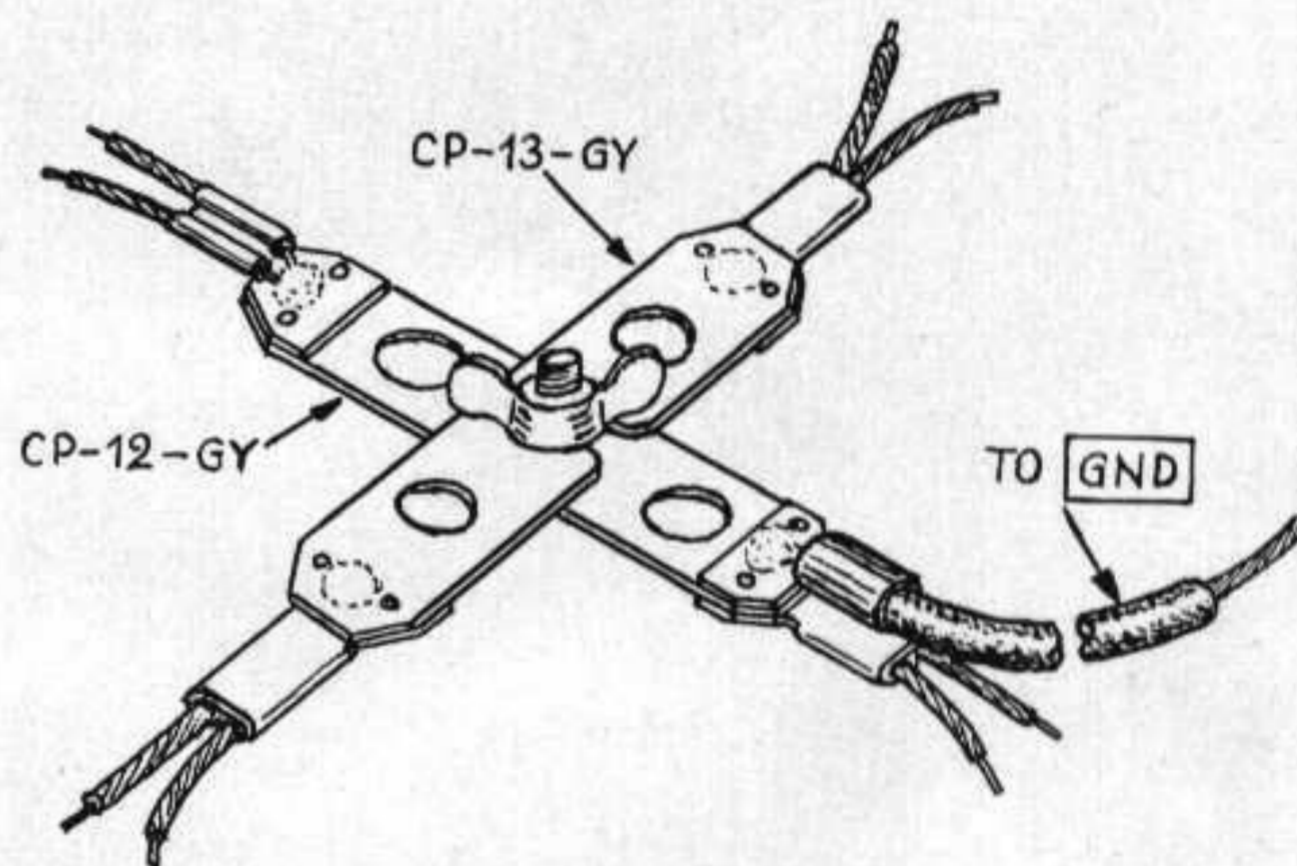

Figure 17. Counterpoises CP-12-GY and CP-13-GY
d. COUNTERPOISES CP-12-GY AND CP-13-GY (fig. 17). When Receiver-Transmitter RT-77/GRC-9-GY is used as a portable unit with
the whip antenna, Counterpoises CP-12-GY and CP-13-GY are fitted together forming a radial network of eight wires and placed on the ground (fig. 35) beneath the whip antenna. They are used to act as a more efficient ground. Counterpoises CP-12-GY and CP-13-GY are supplied and stored together on Reel RL-29-GY. They are made up of heavy, flexible, rubber-covered wires. Figure 17 shows the connecting links.